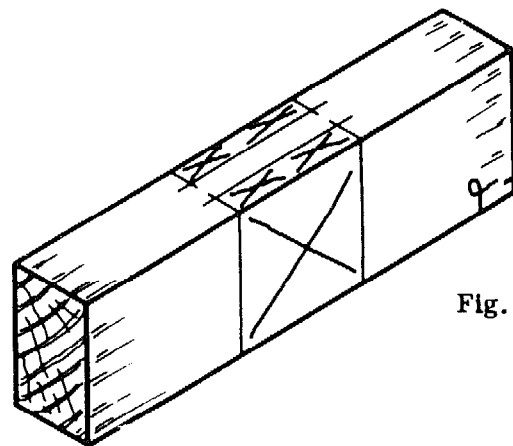

Fig. 4
- Set a marking gauge to 1/3rd of the thickness of the member and gauge along both edges of the pin. Use the gauge from the face side only. Mark the waste with small crosses (Fig. 4).